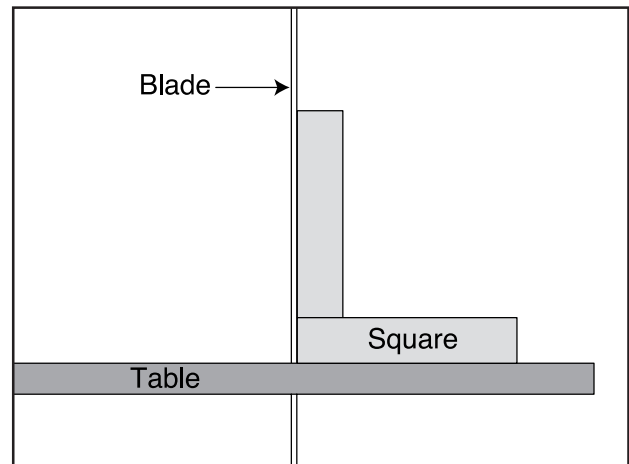

Figure 27. Squaring table to blade.
4. Raise the guide post and place a machinist's square on the table next to the side of the blade as illustrated in **Figure 27**. Adjust the table square with the blade using the table tilt handwheel, then secure with the table tilt lock lever.